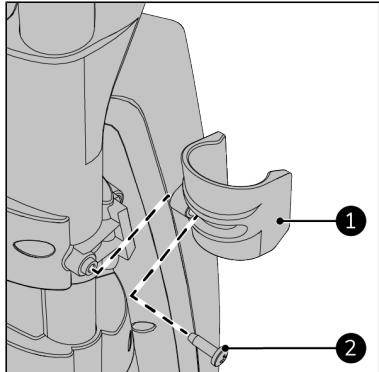

Figure 28.
1. Attach the jet gun bracket (Figure 28, pos. 1) to the main body with a ST4.8x16 screw (Figure 28, pos. 2).